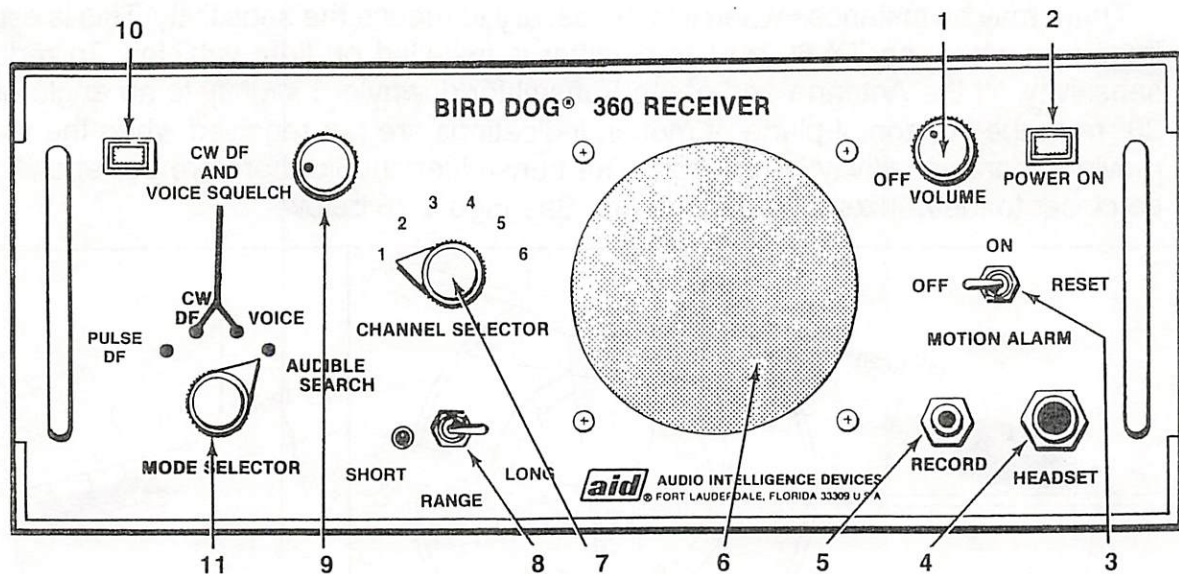

Figure 17. RX-360 Receiver Set for Pulse DF Mode.
6. Set the receiver's controls for operation in the PULSE DF mode (refer to Figure 17).